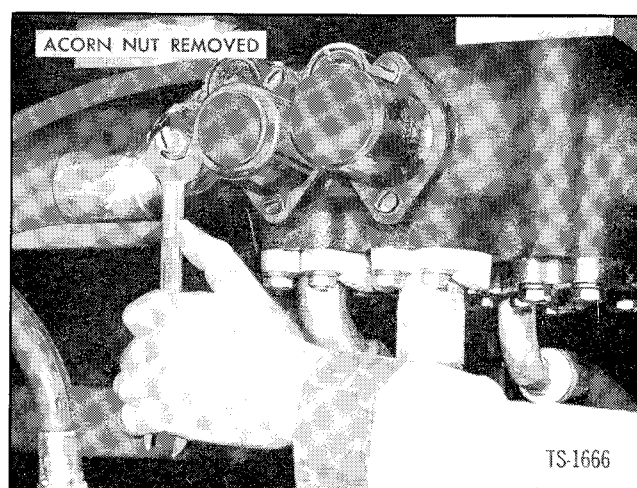

Fig. 21. Adjust Pressure — Boom and Bucket (Main Hydraulic) Valve
4. Remove acorn nut on end of adjusting screw, and loosen locknut. Insert screwdriver and turn screw clockwise to increase pressure, counterclockwise to decrease pressure. See Figure 21. Turn screw in increments of approximately one revolution or less, set locknut, and retake reading. Repeat until gauge reads 1350 psi.